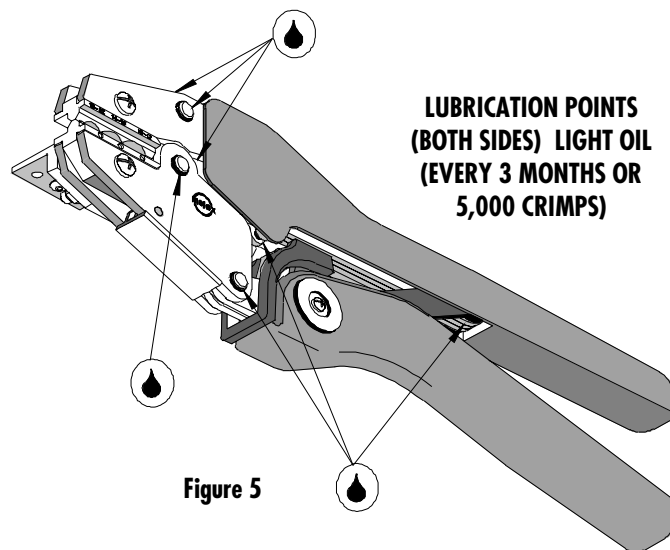

Figure 5
3. Make certain all pins; pivot points and bearing surfaces are protected with a thin coat of high quality machine oil. Do not oil excessively. The 64001-4500 (RHT-5771) was engineered for durability, but like any fine piece of equipment, it needs cleaning and lubrication for a maximum service life of trouble-free crimping. A light oil, such as 30 weight automotive oil used at the oil points shown in Figure 5, every 5,000 crimps or 3 months will significantly enhance the tool life and ensure a stable calibration.